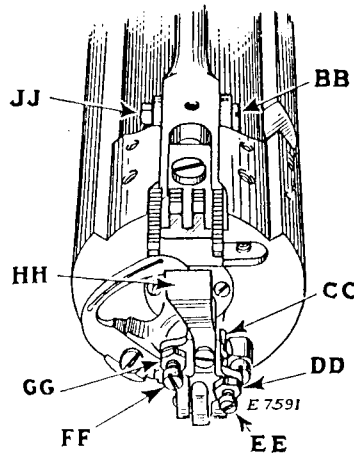

FIG. 10. ADJUSTMENTS ON THE MACHINE
To obtain the correct distance from the point of the looper to the centre of the left needle, loosen the looper carrier clamp screw (CC, Fig. 10, page 12) and turn the looper carrier, as required, then securely tighten the clamp screw (CC).
plate. To raise or lower the feed dog, loosen the lock nut (JJ, Fig. 10) and turn the screw (BB, Fig. 10) as required. When the feed dog is set at the desired height, securely tighten the lock nut (JJ). Care must be taken to keep the feed dog high enough so that it does not strike the looper.
The function of the needle thread loop guard (HH, Fig. 10) is to prevent the needles from springing too far from the looper and to ensure the correct formation of the needle loops on the looper side of the needles.
When the needles are at their lowest point, the needle thread loop guard (HH) should be set so that it just clears the needles. To make this adjustment, loosen the lock nut (DD, Fig. 10) and turn the stop screw (EE, Fig. 10) in or out, as required, then securely tighten the lock nut (DD).
When the looper has reached its extreme forward movement, the screw (FF, Fig. 10) should just come into contact with the end of the looper shaft, so that the movement of the looper shaft will keep the needle thread loop guard (HH) out of the path of the looper. To make this adjustment, loosen the lock nut (GG, Fig. 10) and turn the screw (FF) in or out, as required, then securely tighten the lock nut (GG).